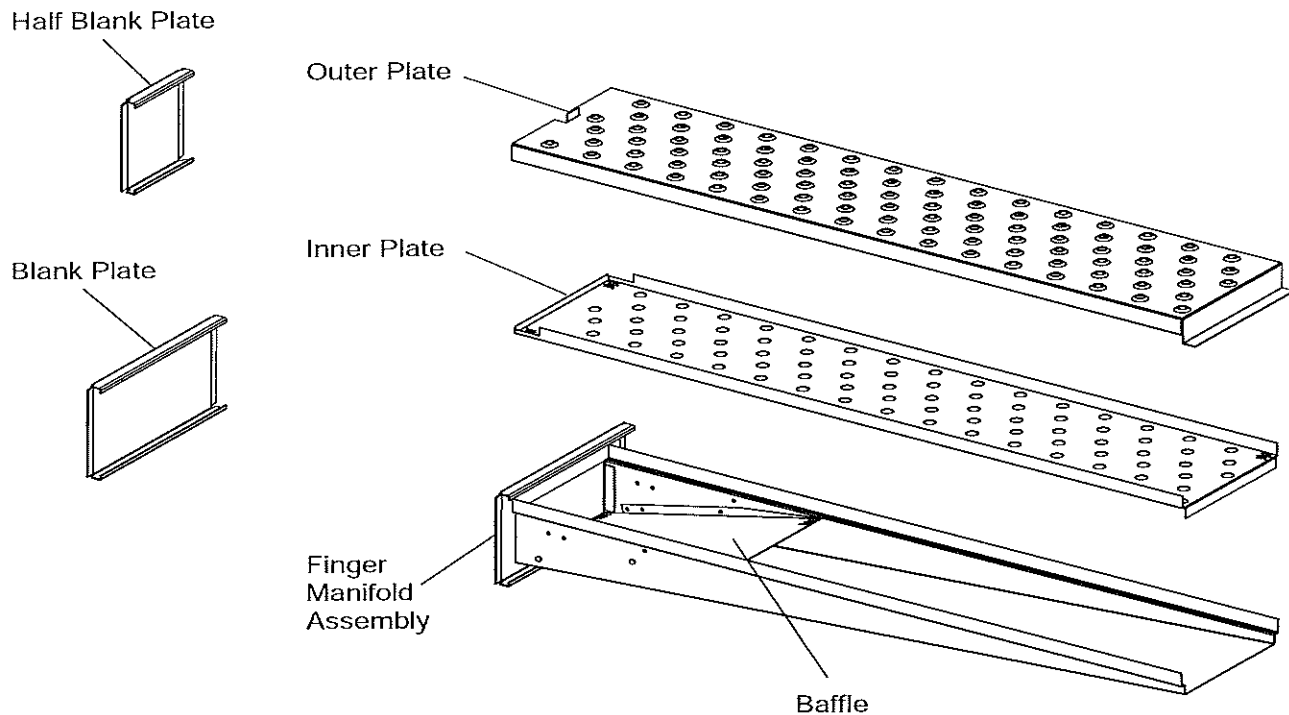

Figure 1-9. Blank Plates (two sizes) and an Air Finger.
E. Air Fingers and Blank Plates - See Figure 1-9